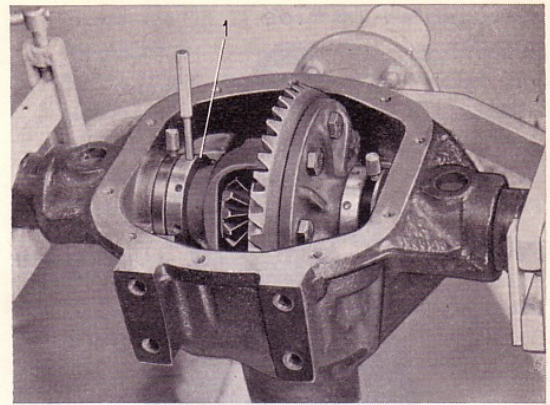

Fig. 49. Adjusting rings for differential
1. Oil the adjusting rings internally and fit them on the differential carrier. For the Spicer 23 unit, use adjusting rings SVO 2687 and for the other final drive units, use SVO 2595. The ring with the oxidized adjusting ring is placed on the crown wheel side. Oil also the bearing seat in the carrier. The differential carrier and adjusting rings are placed in the drive axle carrier, see Fig. 49. Use the dial indicator and adjust the ring so that the correct tooth flank clearance, 0.15 (0.0060") is obtained.** Tighten the lock bolts in the adjusting rings.